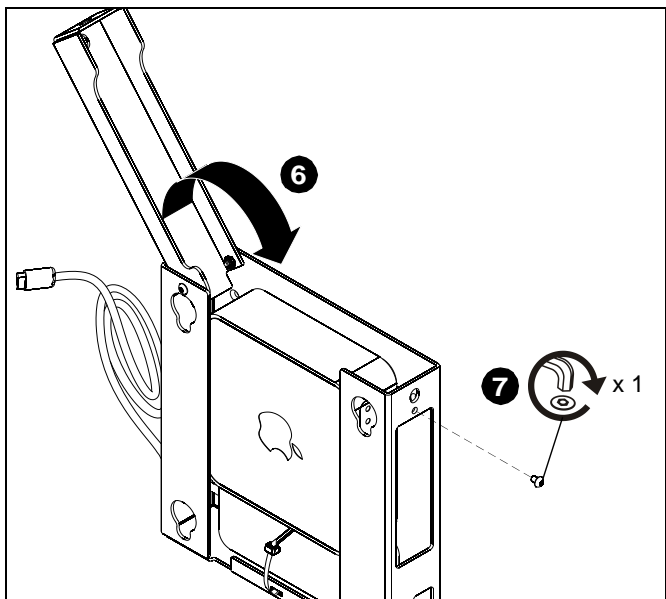

Figure 4
6. Close cover of CPU holder. (See Figure 4)
7. Secure CPU holder cover with button head security screw (removed in Step 1) or with an optional lock (not provided). (See Figure 4)